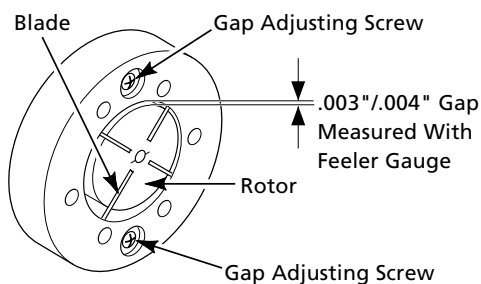

Figure 19 - Gap Adjusting Screw Locations
9. Check gap on rotor. Adjust to .003"/.004" if needed (See Figure 19).